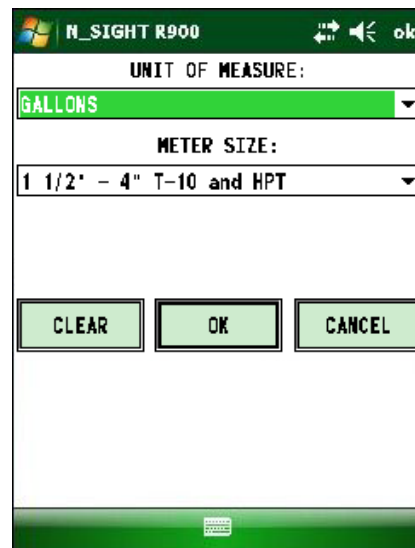

Figure 7.9 Unit of Measure Screen
- 4 Select **Unit Of Measure** from the drop-down list. See Figure 7.9.